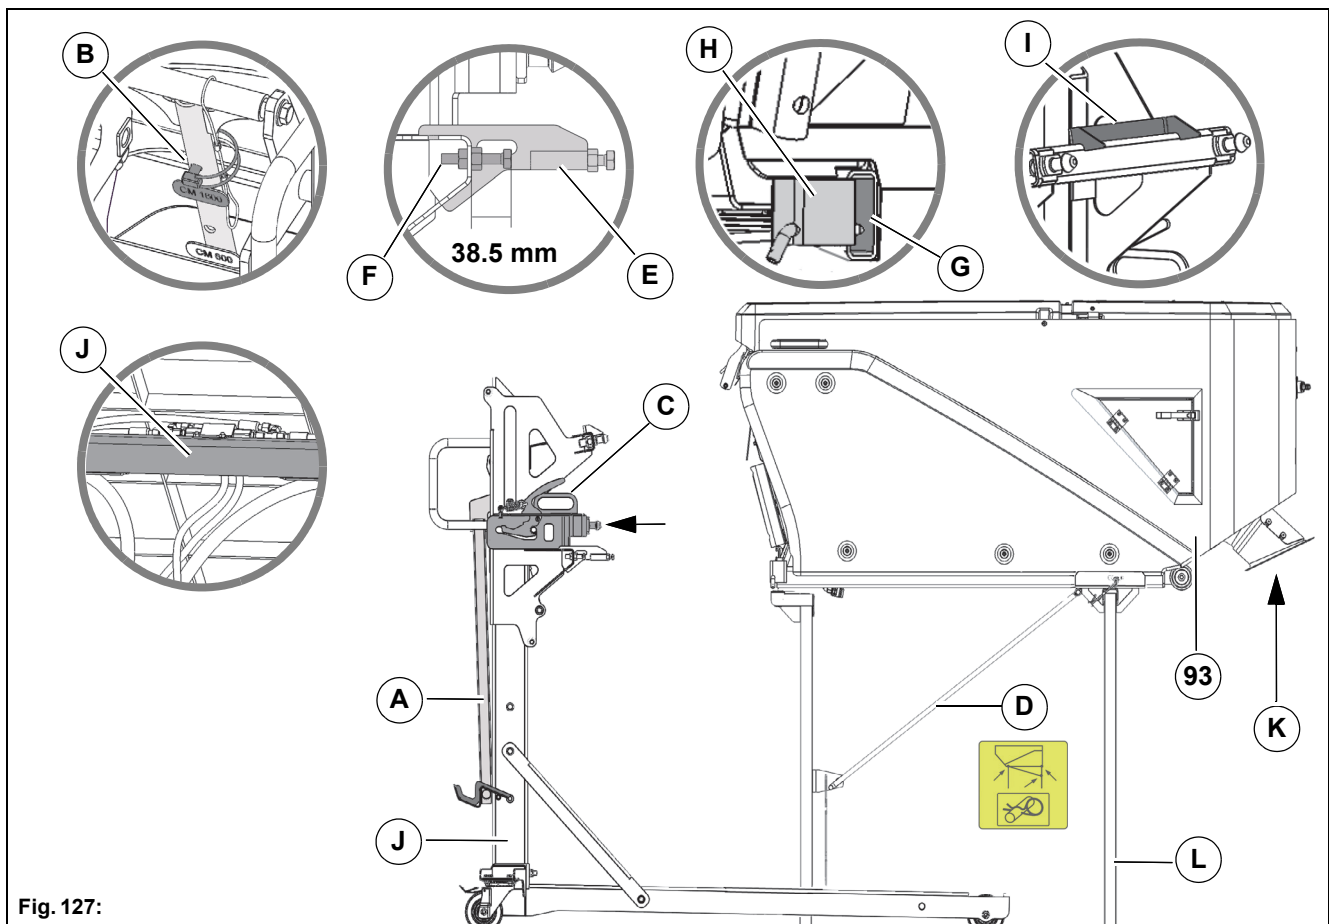

Fig. 127:
Risk of injury due to tilting over! Make sure that the cross strut **Fig. 127-D** (optional) has been inserted when transporting the dirt hopper on the supports **Fig. 127-L**. Secure the supports with bolts and splints.
6. Push the trolley **Fig. 127-J** (optional) with the lower positioning aid **Fig. 127-E** into the spars **Fig. 127-G** and against the fixed bearings **Fig. 127-H** of the dirt hopper. The screw **Fig. 127-F** must be adjusted to 38.5 mm!
7. Carefully lower the lever **Fig. 127-A** of the trolley and make sure that the upper positioning aid **Fig. 127-I** sits behind the plate **Fig. 127-J** of the dirt hopper. Lock the lever.
8. Remove the supports **Fig. 127-L**. To do so, pull out the split pins and the bolts.
During mounting protect the seal **Fig. 127-K** of the suction nozzle with a cover plate.